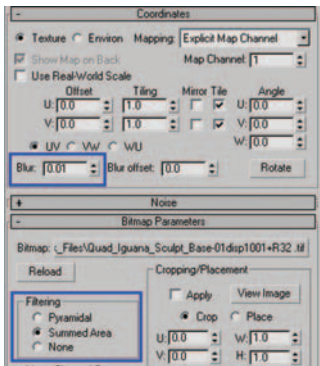

Figure 11.54 The Coordinates and Bitmap Parameters rollouts with options highlighted.
18. In the Material Editor under the Coordinates rollout right-click the spinner next to Blur to set it to 0.01. Under Bitmap Parameters set the Filtering type to Summed Area. Adjusting these settings creates a cleaner end-product as the displacement map is not blurred. Figure 11.54 shows the Coordinates and Bitmap Parameters rollouts with the options highlighted.